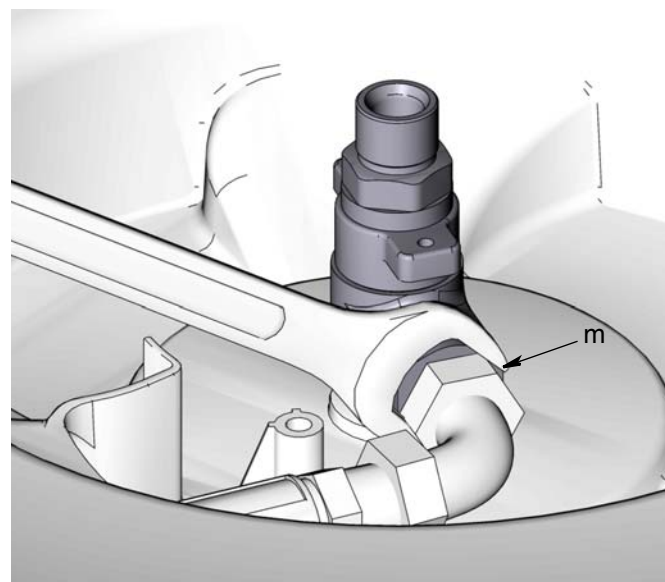

FIG. 13
12. Loosen hose fitting (m) and disconnect hose from swivel assembly (FIG. 13).